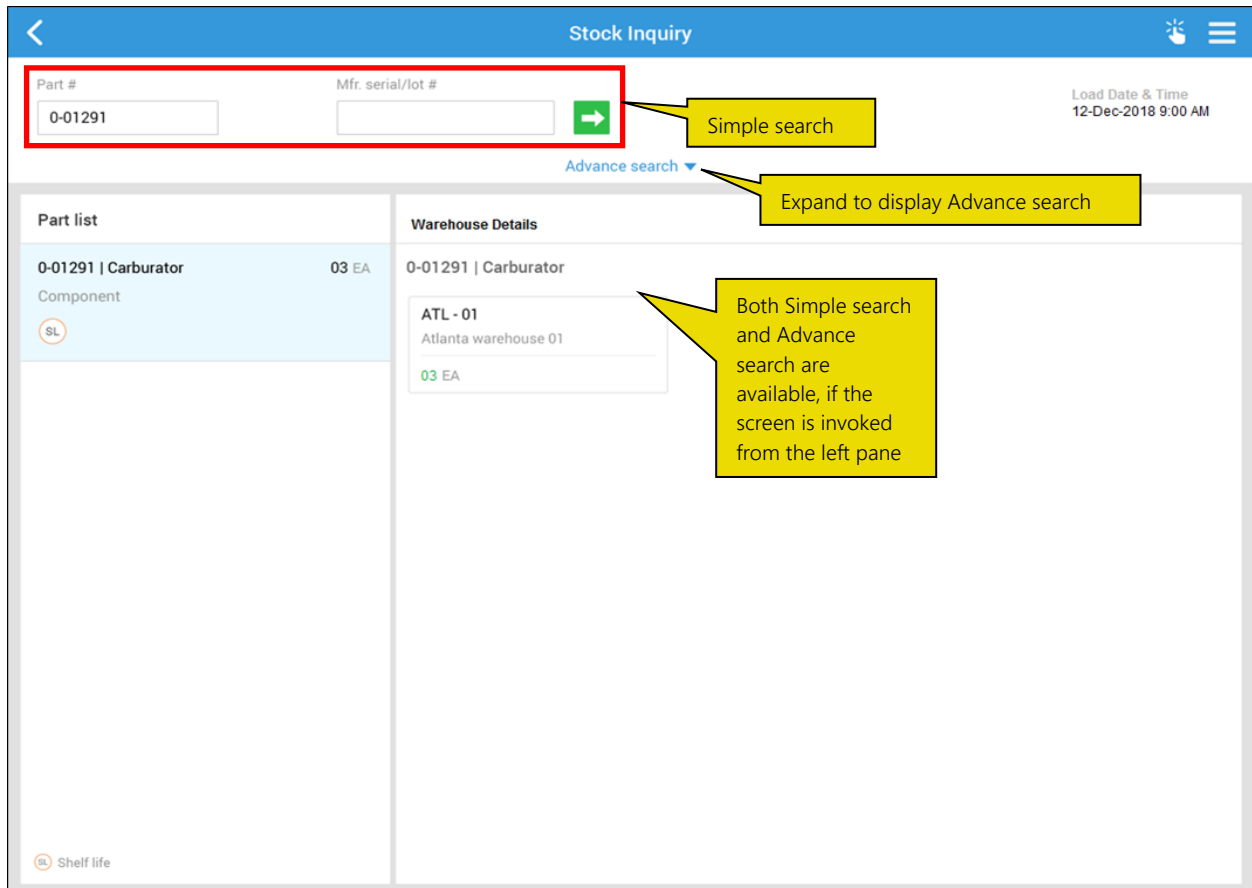

Figure 4.29: The Stock Inquiry screen
1. Tap **Stock Inquiry** in the left pane of My Dashboard page. See Figure 4.29.